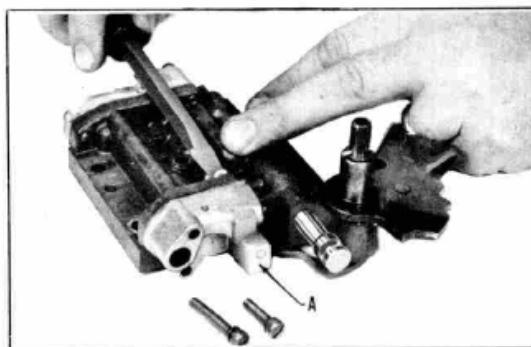

Figure 9
12. Remove the three screws from the detent plunger retainer (A) and remove the retainer and plate, Figure 9.